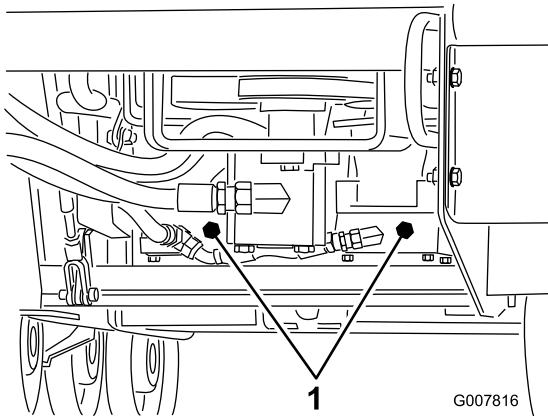

Figure 22
3. Using a wrench, turn the tow valves on the hydraulic pumps twice counter-clockwise (Figure 22).